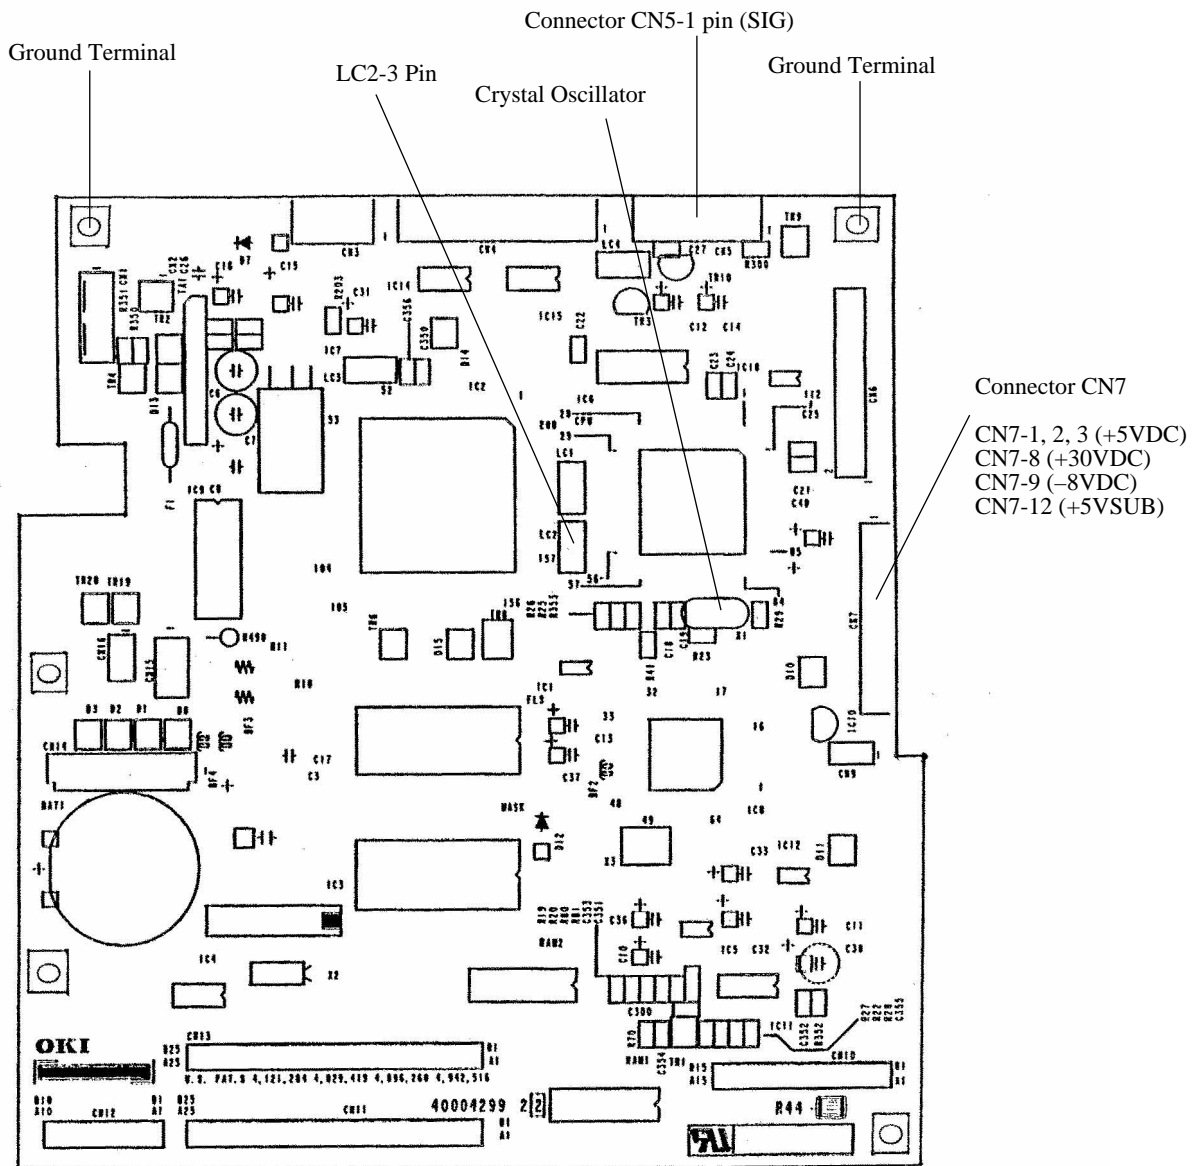

Figure 5.2.1 Measurement Points on R44 Board
- 4) Connect the frequency counter (for clock frequency), digital voltmeter (for power voltage) and Oscilloscope (for SIG signal). See figure 5.2.1.